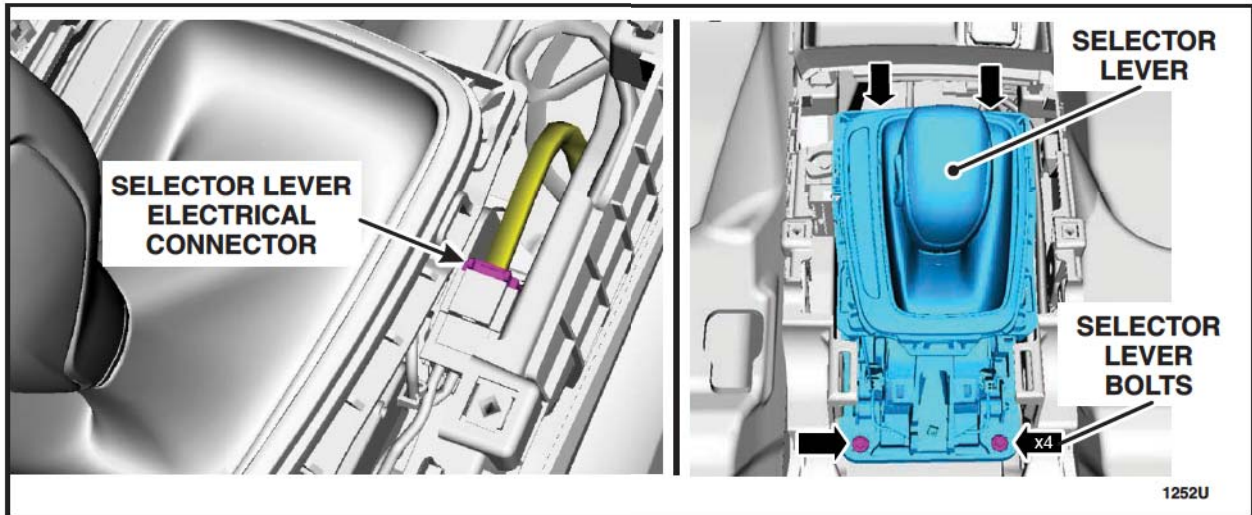

FIGURE 16
24. Disconnect the selector lever electrical connector. Remove the four bolts and remove the selector lever. See Figure 16.
8. Install the selector lever and tighten the four bolts. Connect the selector lever electrical connector. See Figure 16.